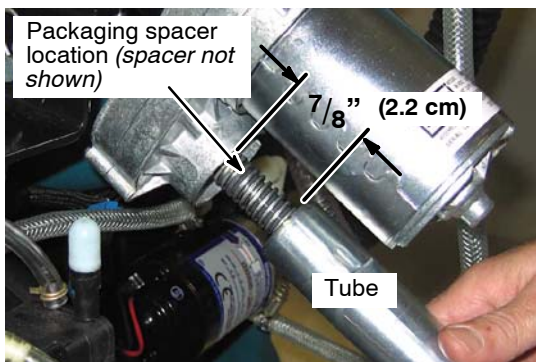

FIG. 5
3. The actuator is factory set at the upper limit switch position. A packaging spacer is inserted between the tube and gearbox to hold the setting. Remove spacer. **Do not rotate tube.** (Fig. 5)